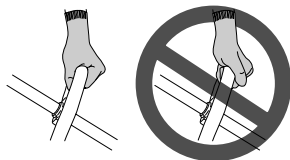

Fig. 36
- Place your thumb on the loop handle and grip the handle with your other fingers. (Fig. 36)